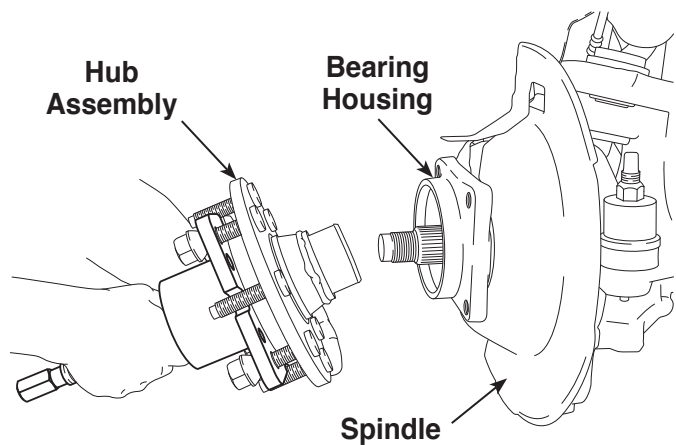

Figure 2
1. Remove the puller from the hub. See Figure 2.